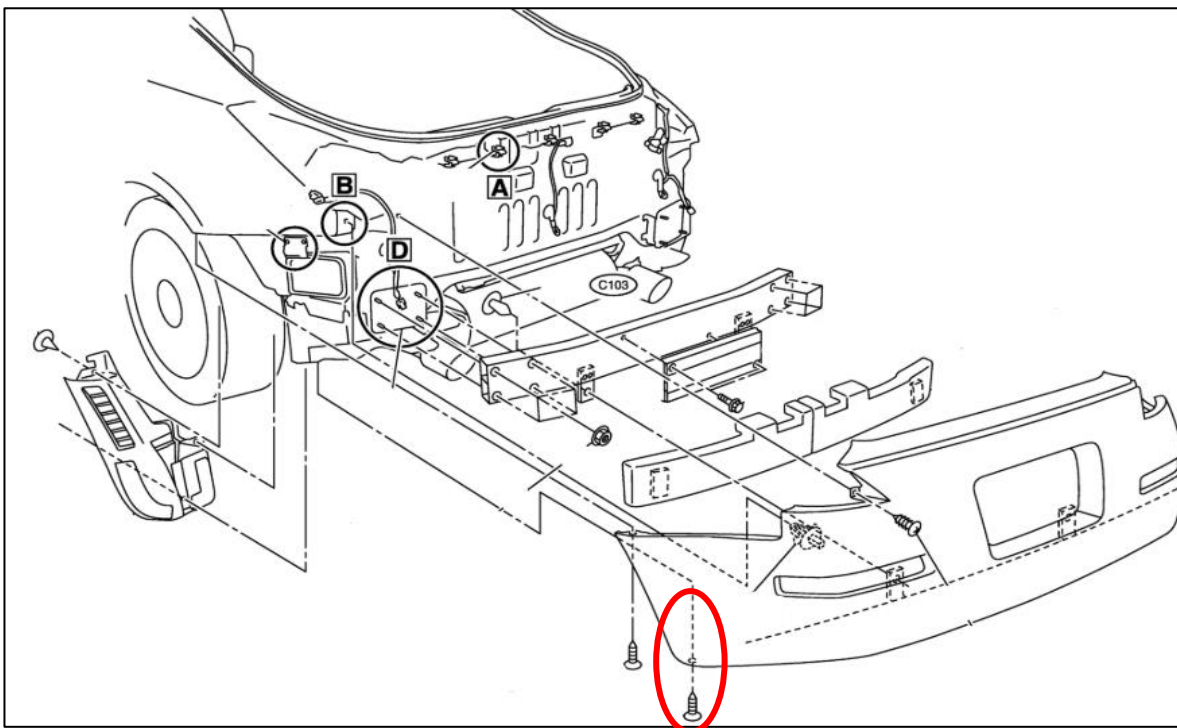

Figure 4
8. Remove the (2) two bolts, (1) one on the bottom of each side of the bumper. *Figure 4.*